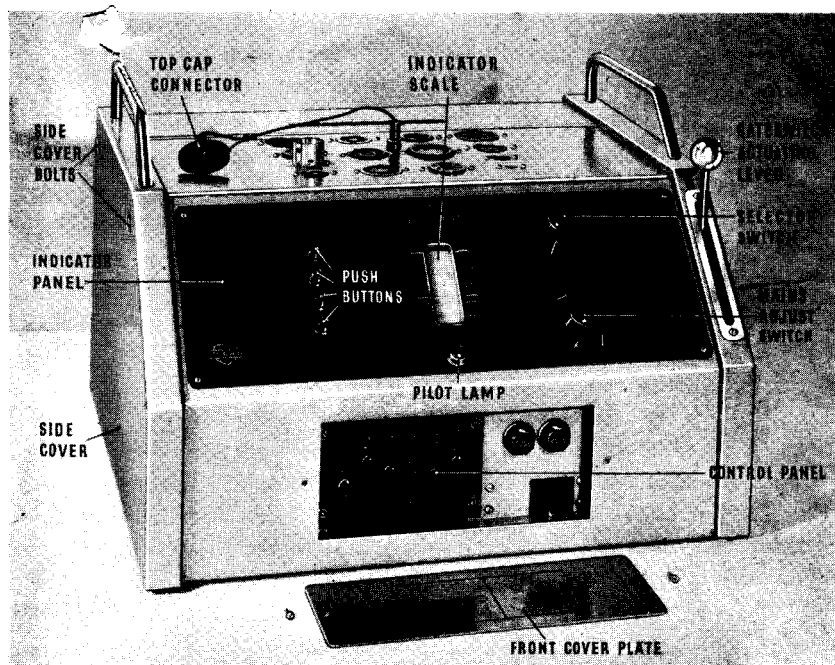
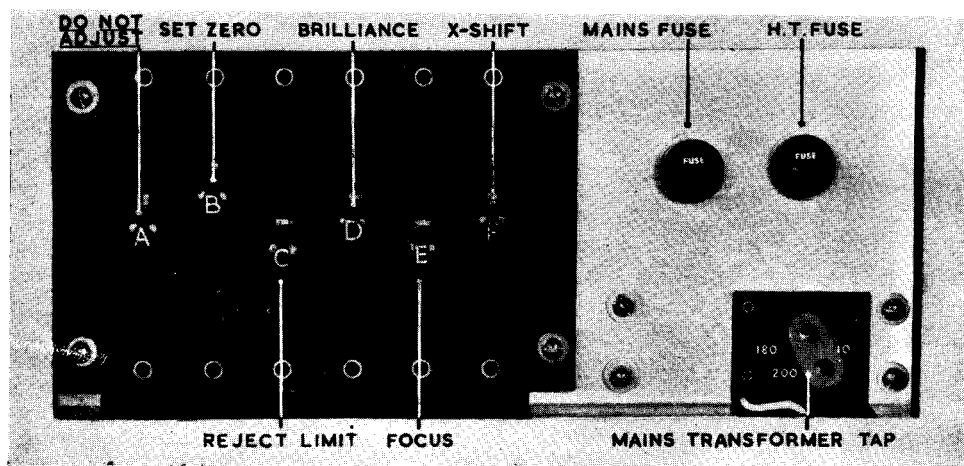

FIG. 1.—VALVE TESTER SHOWING CONTROLS.
FIG. 3.—CONTROL PANEL.
The Mullard High Speed Valve Tester shown in Fig. 1, is an apparatus for conducting rapidly and in correct sequence a standard testing routine on radio receiving valves.
The controls for the cathode ray tube are located behind the front cover plate and are shown in Fig. 3. These controls are set up at the factory and are unlikely to require adjustment when the instrument is first received.
Before connecting the instrument, measure very carefully the mains supply voltage. Remove the front cover plate, by unscrewing the two 4 BA bolts (Fig. 1), and select the mains transformer tap corresponding to the mains supply (Fig. 3). If the supply lies between two tap positions the lower tap must be selected and the difference compensated by adjusting the "MAINS ADJUST." control on the indicator panel.
- (b) Set the selector switch to "EMISSION & ELECTRODES O/C" and insert the "REJECT" card. Close the gate and wait for the spot to appear. When it comes to rest set it approximately to line "D" by means of the control "B" on the control panel (Fig. 3). Turn the selector switch to "HEATER CONTINUITY & MAINS ADJUST." and note the position of the spot with respect to line "C."